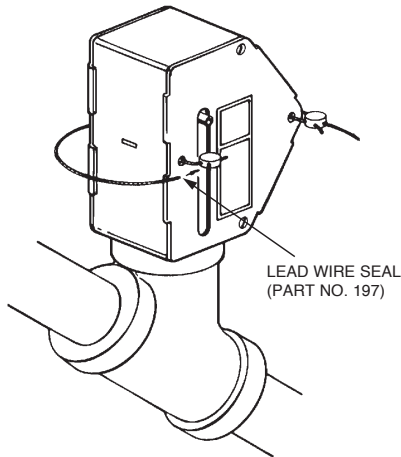

FIGURE 6-1
8. Reinstall the side covers to gas valve housing. Make certain roll pin is positioned within both sides of the valve housing slot. Connect lead wire seals (Part No. 197) on ANSUL® type valves. See Figure 6-1.